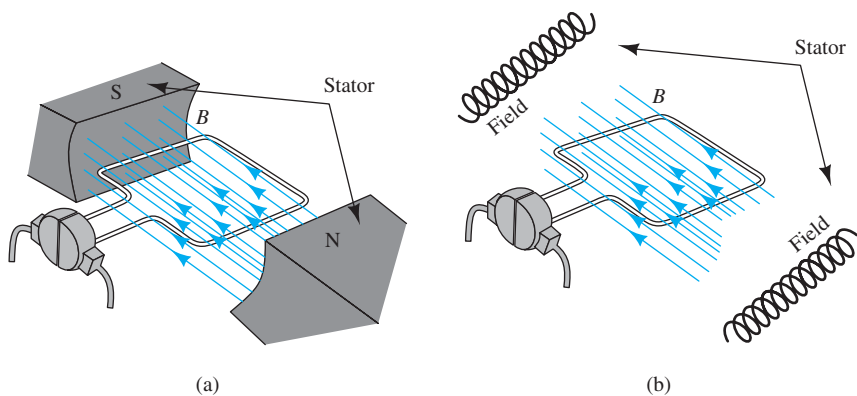

FIGURE 13.3 DC motor: (a) Permanent magnet stator; (b) field winding stator.
- **Stator:** A stator is usually the static component of the motor. Most electric motors employ a cylindrical stator that has an even number of magnetic poles. The stator can be formed either by permanent magnets (PMs) [as shown in Figure 13.3(a)] or by field windings [see Figure 13.3(b)]. Field windings are applied to the slots cut within the surface of the stator structure.
- **Windings:** There are two types of windings: field and armature. Both types carry DCs. Field winding sets up the magnetic field of the stator, whereas armature winding does the same for the rotor. Figure 13.3 shows the two types of windings.